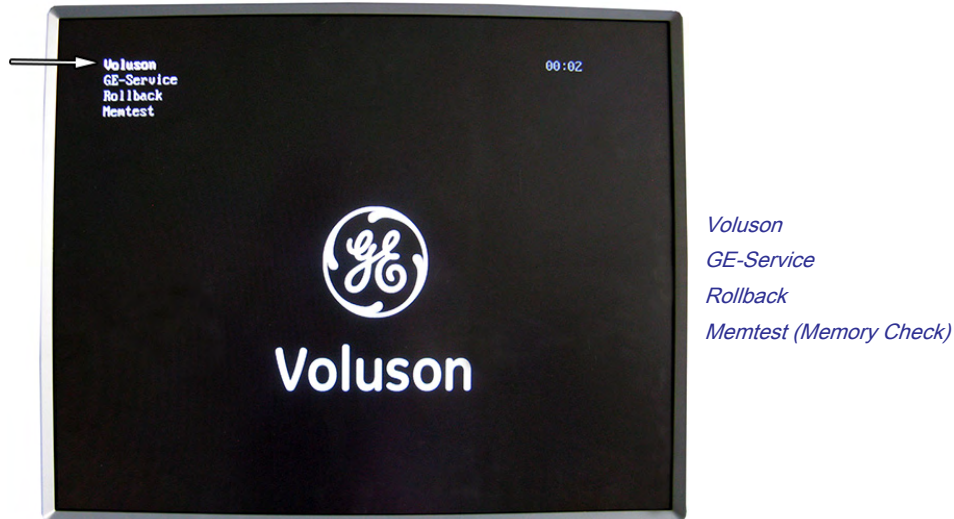

Figure 5-22 Boot screen
2. As soon as the “Boot Screen” appears (see: Figure 5-22 on page 5-42), press the **[PgDn]** (Arrow down) key on the keyboard until the **Rollback** item is highlighted, then press **Enter**.
2. As soon as the "Boot Screen" appears (see: *Figure 5-22 on page 5-42*), press the **[PgDn]** (Arrow down) key on the keyboard until the **Memtest** item is highlighted, then press **Enter**.